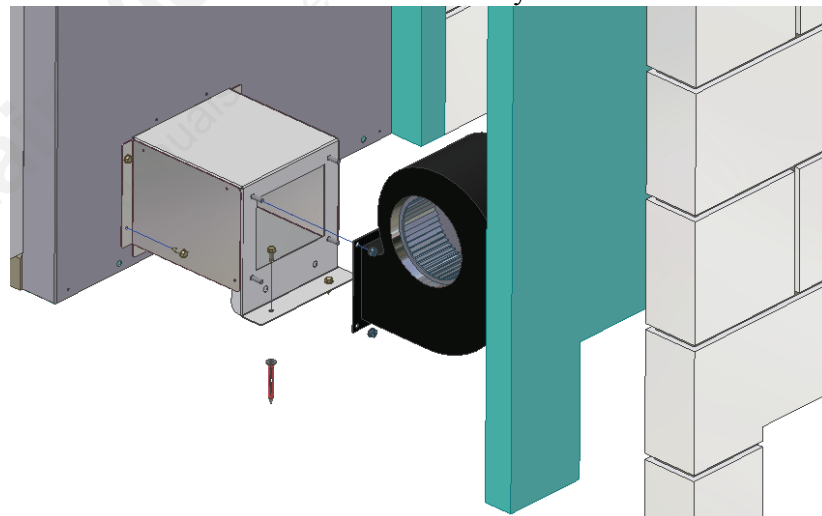
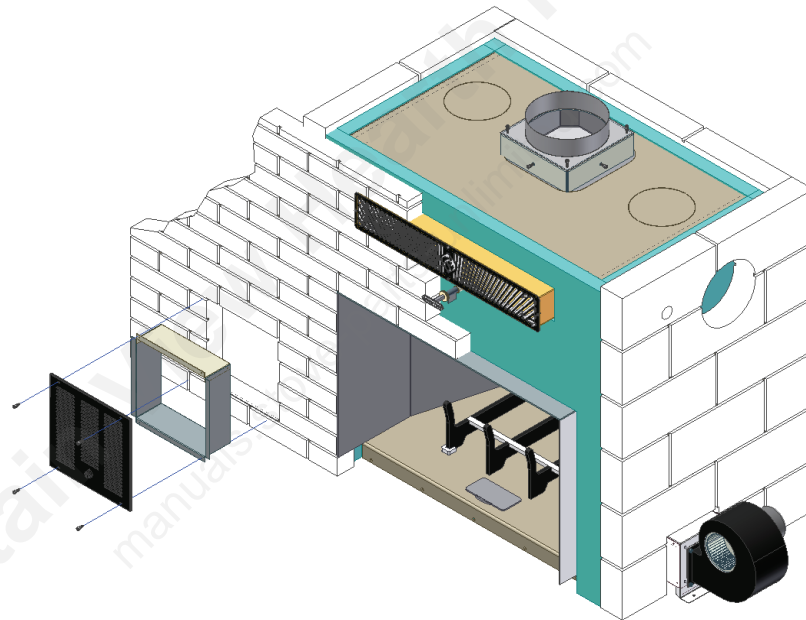
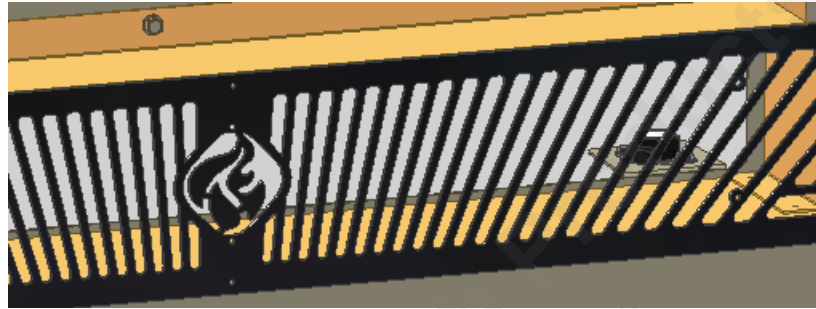

FIGURE 8A: BLOWER INSTALLATION
FIGURE 8B: AIR INTAKE GRILL INSTALLATION
FIGURE 12: THERMAL SNAP DISK LOCATION
Blowers add to the efficiency of the Smart Fireplace Furnace by moving room air across the heat exchanger fins built into the Smart Fireplace Furnace. This air is heated and then returned to the room or home duct system to provide more uniform heating throughout the house. Country Flame provides two grille frames that are to be framed in by the mason when finishing the front face of the Smart Fireplace Furnace. FIGURE 8A shows how a blower is mounted to the Smart Fireplace. Figure 8B shows the proper installation of the air intake grills with variable speed controls attached. Follow the steps listed below to install each blower. Refer to FIGURE 12 for the electrical schematic of the blower system.
1. Attach one blower mount to the Smart Fireplace on the right side as shown in FIGURE 8A. Repeat the process for installing the blower mount and fan on the left side. **NOTE:** Ensure an electrician wires and properly grounds the Smart Fireplace blowers. Once the brick mason has completed the face, no access to the blower wiring is possible. Bolt blower mounts to the concrete footing in order to minimize movement or vibration of the blower assembly as shown in FIGURE 8A.
3. Once Step 1 and 2 are complete, the air intake grilles and grille frames can be installed when the mason bricks the front of the fireplace. Refer to FIGURE 8B to see the recommended procedure for proper installation of the grille frames. Ensure that the electrician properly wires the variable speed control provided on the air grilles to the blowers.
FIGURE 12 shows the location of the thermal snap disk on the right side behind the front grille. Service to this component should only be accomplished by a qualified technician. This snap disk comes pre-wired from the factory. Once connected to the main power circuit, this snap disk will automatically turn the blower system on and off as the Smart Fireplace Furnace reaches either the appropriate hot or cold temperature.